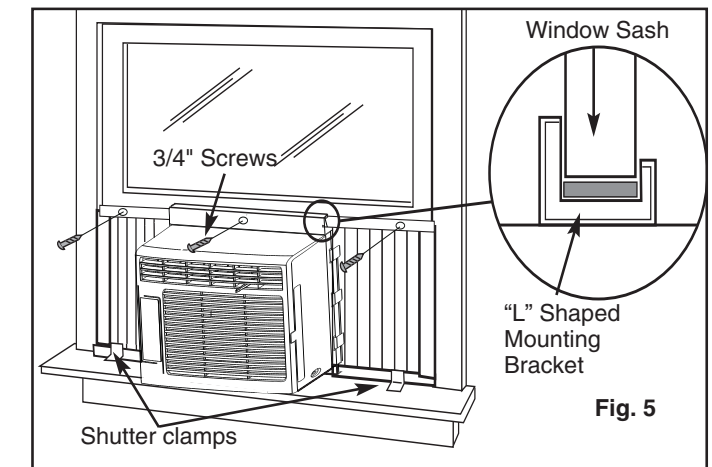

Fig. 5
- Carefully place the air conditioner into the window with the "L" shaped mounting bracket (on top) positioned in front of the upper window sash. The bottom of the cabinet should be positioned on the "recessed" portion of the window frame. Pull the window down until it rests just behind the front flange of the (top) "L" shaped mounting bracket. See Fig. 5.
- Expand the shutter frames (fully) on each side and secure the top of the frames to the window sash using one 3/4" screw on each side and one in the "L" shaped mounting bracket. Fig. 5
- Secure the shutter clamp on each side of the (lower) shutter and secure to window sill using one 3/4" screw on each side. Fig. 5